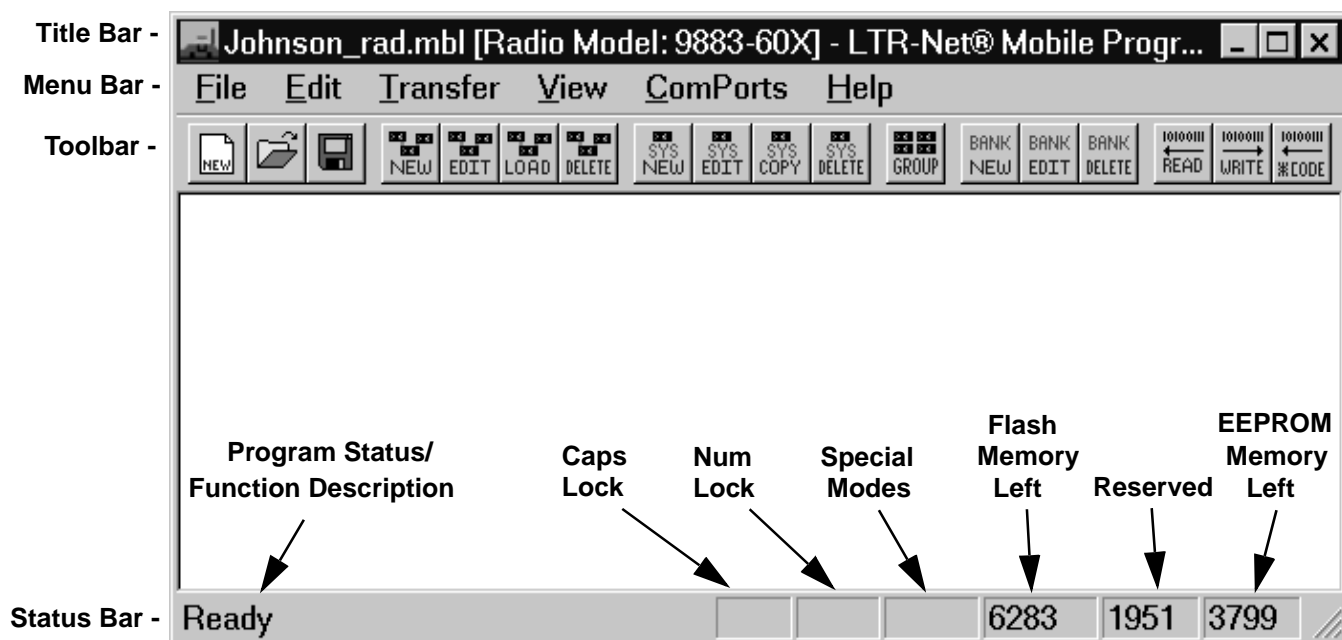

Figure 3-2 Main Window
The title bar is located at the top of the window (see Figure 3-2) and indicates the following:
- Name of the current data file (Johnson_rad.mbl in Figure 3-2).
The menu bar (see Figure 3-2) displays the headings for the menus that are used to select program functions. Quick access to the most frequently used menu functions are provided by toolbar buttons. Refer to Sections 3.5 - 3.10 for descriptions of menu functions.
The toolbar (see Figure 3-2) provides quick access to the most frequently used menu functions. The toolbar can be turned on and off by selecting View > Toolbar in the menu bar. The function of these buttons and section in which the function is described are as follows:
The status bar is located at the bottom of the screen (see Figure 3-2), and it indicates the following information. The status bar can be turned on and off by selecting View > Status Bar in the menu bar.
1. Start the program as described in Section 3.2.3. The main window shown in Figure 3-2 should be displayed.